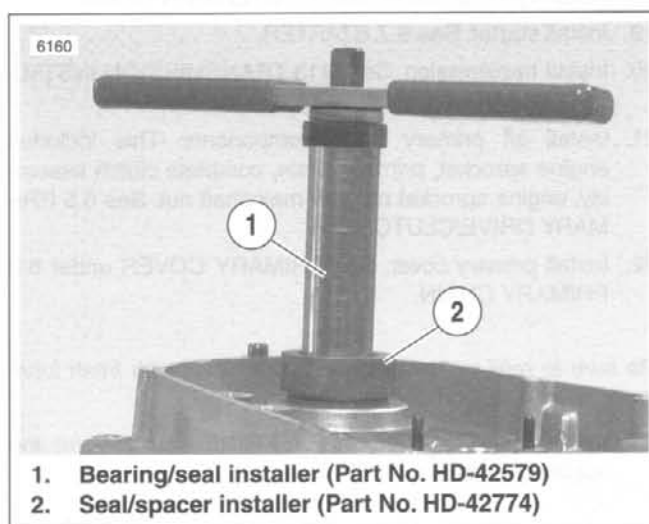
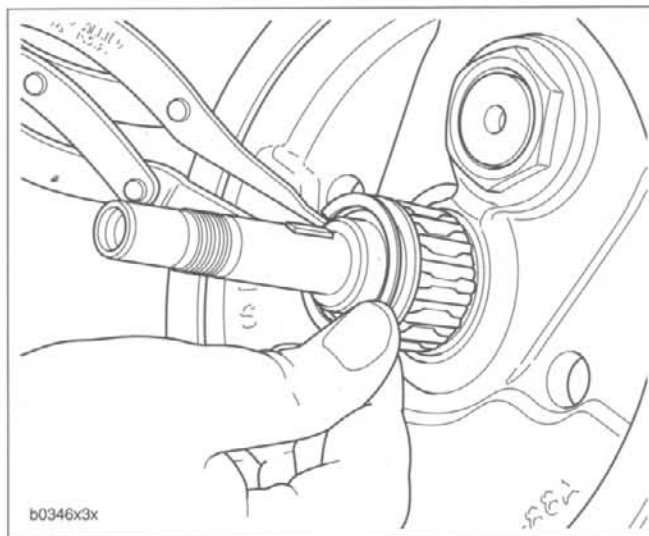

Figure 3-121. Install Bearing Seal/Spacer
Figure 3-122. Pinion Shaft Bearing
11. See Figure 3-121. Install bearing seal and spacer.
- Center seal/spacer driver (2) over seal, so that the sleeve (smaller OD) seats between seal wall and garter spring.
- Assemble SPROCKET SHAFT BEARING/SEAL INSTALLATION TOOL (1) (Part No. HD-42579) and SPROCKET SHAFT SEAL/SPACER INSTALLER (Part No. HD-42774) onto sprocket shaft. Follow procedure in Step 8.
12. See Figure 3-122. Install pinion shaft bearing.